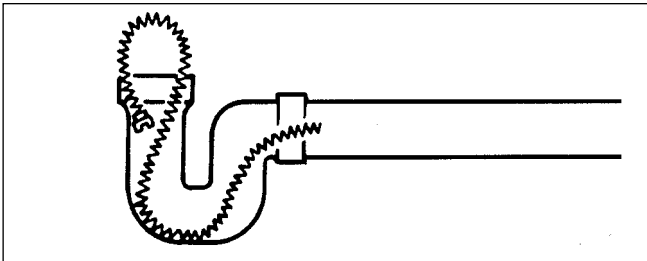

Figure 7 – Looping Cable In Line
- Secure the cable by looping it in the line (*Figure 7*). This procedure is especially useful when cleaning a line that has rapid fall, such as working from a stack line.